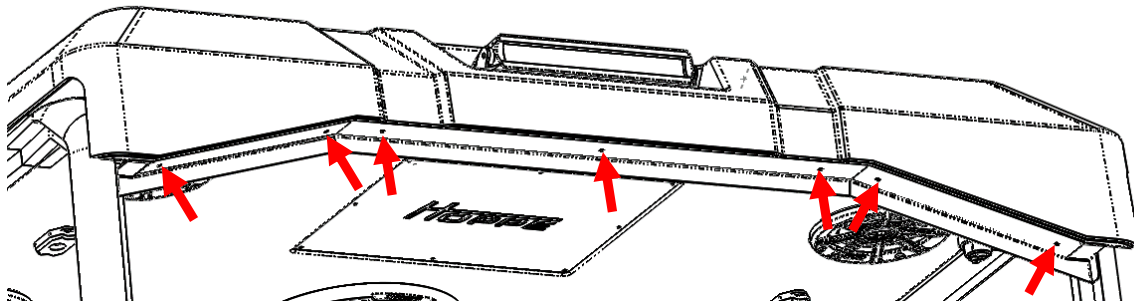

Figure 22: With the bracket in position, secure it to the roof.
26. Use masking tape to temporarily hold the bracket in position as shown in Figure 22.